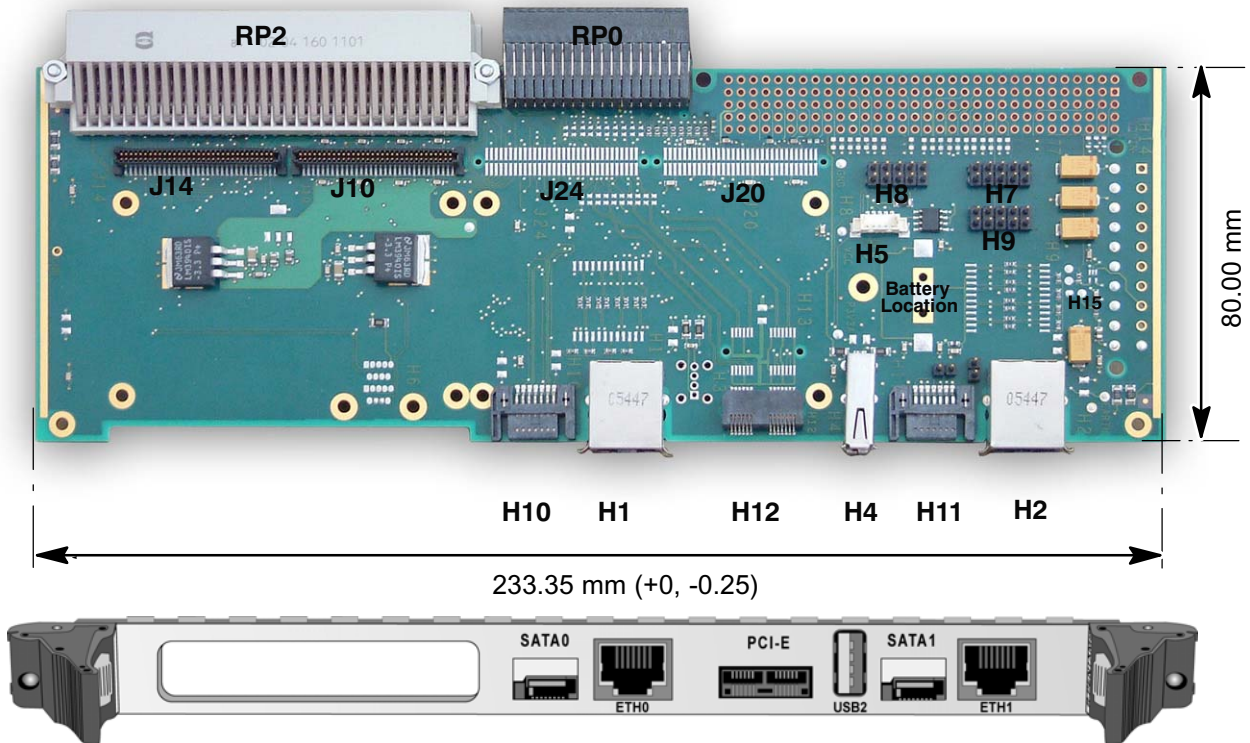

Figure 5: PBV36-P0-PENTXM2-00 Module Overview
- Two 10/100/1000BASE-T Ethernet interface, **H1** and **H2** connectors on Figure 5
- One USB connector, **H4** on Figure 5
- One SMB connector, **H5** on Figure 5
- Two Serial lines ports available on two HE10 connectors (**H7**, **H8** on Figure 5)
- Three GPIOs signals available through an HE10 connector, **H9** connector on Figure 5
- Two Serial ATA connectors, **H10** and **H11** connector on Figure 5
- One PCI Express connector, **H12** connector on Figure 5